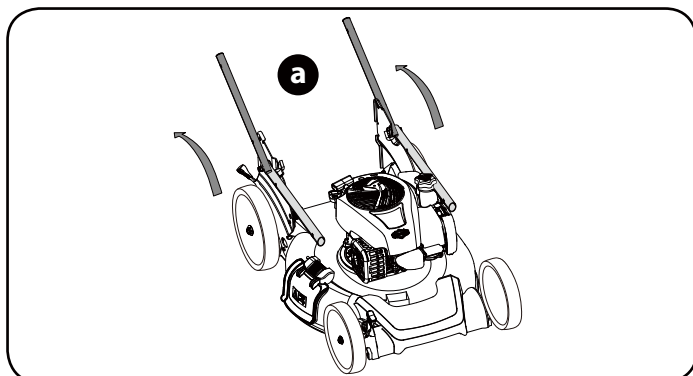

Figure 1
1. Unfold the lower handle (a) to the operating position. (Figure 1)